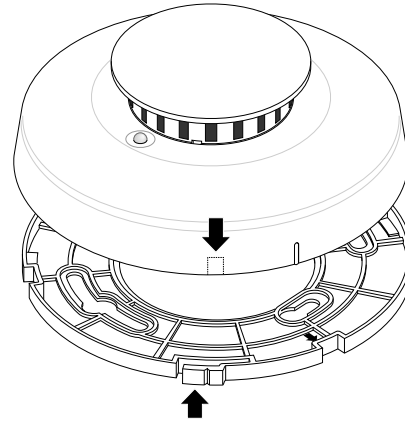

Figure 1 - Detector/Base Lock Knockouts
1. If you are using the detector/base lock, remove the detector knockout and break off the tab on the mounting base. See Figure 1.